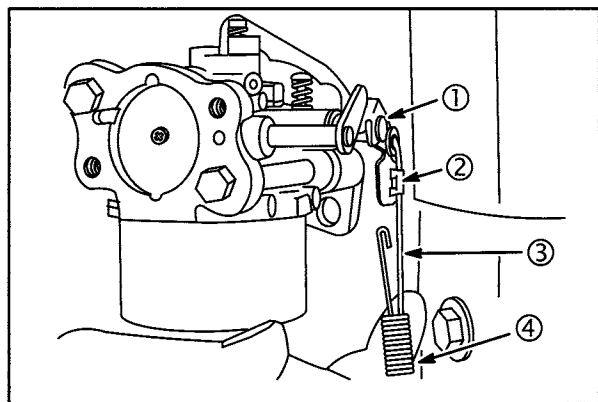

**Fig. 24**
1. Assemble gaskets (2) and spacer (1) to intake manifold.
2. Assemble carburetor onto mounting studs, **Fig. 24**.